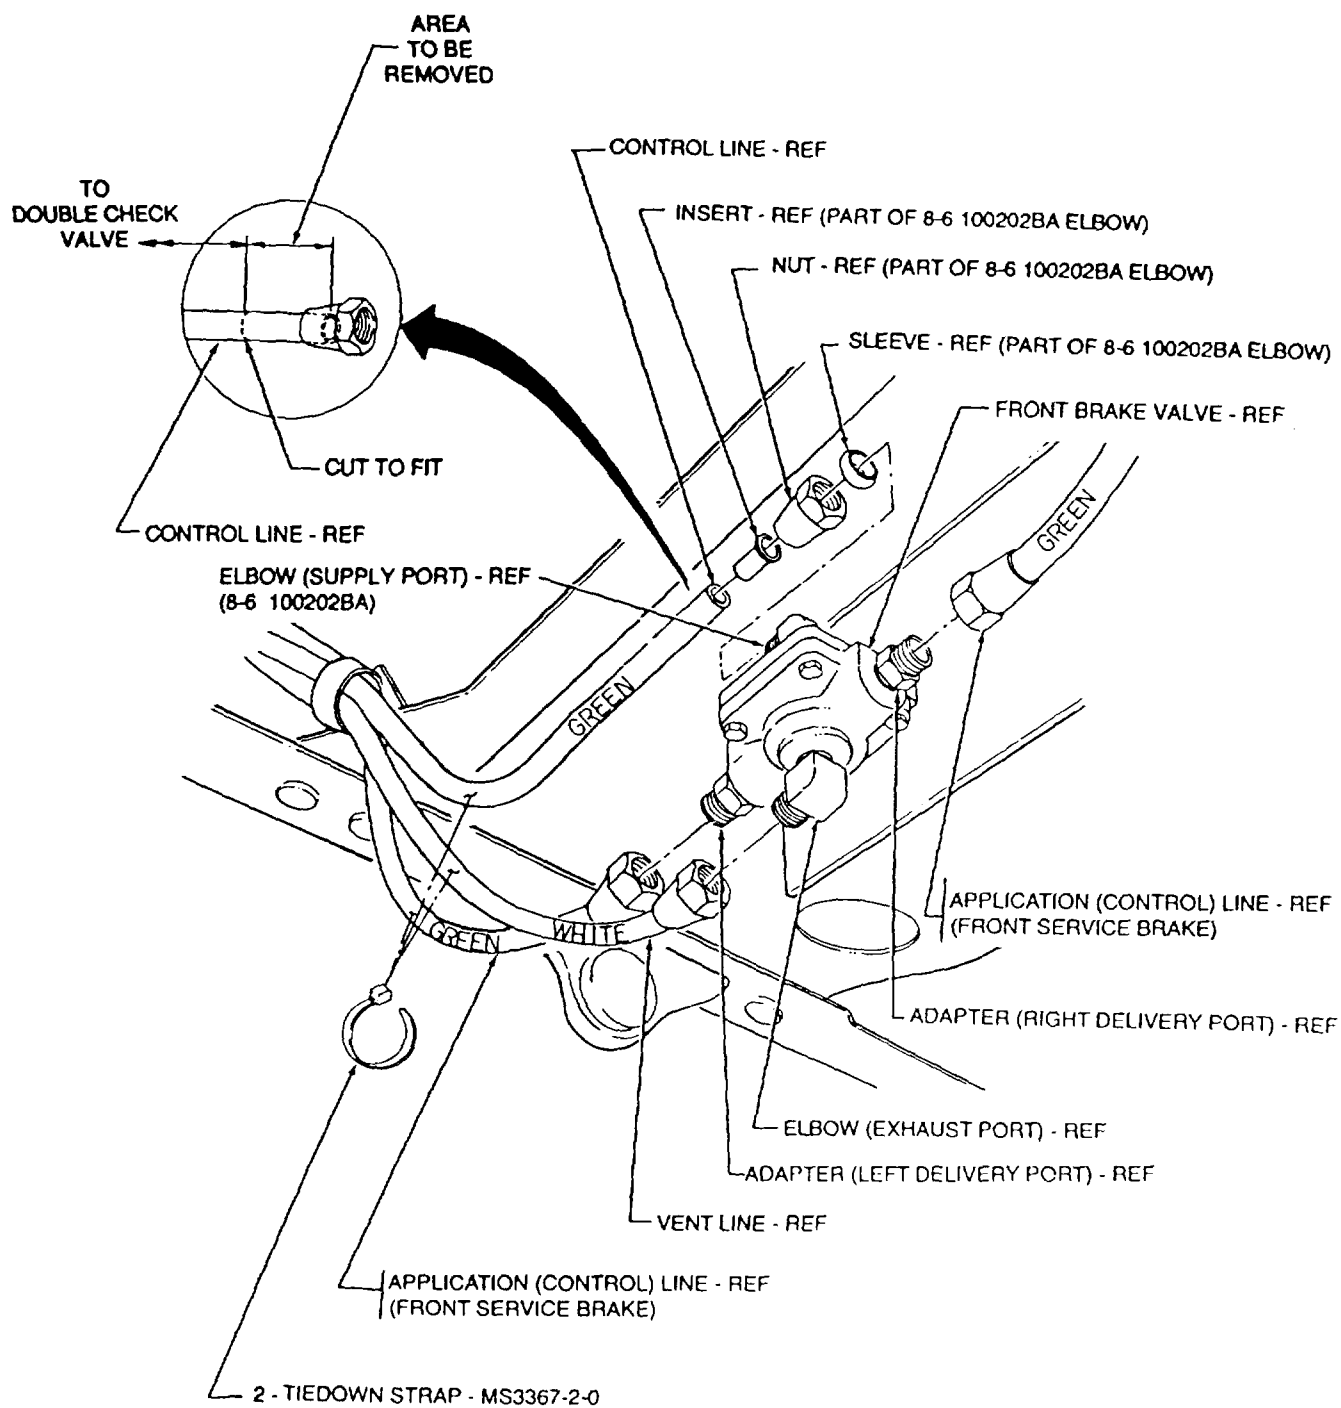

FIGURE 4
(5) Connect two existing application lines (front service brake) to adapters (left and right delivery ports) as shown in figure 4.
- (6) Connect existing vent line to elbow (exhaust port) as shown in figure 4.
- (7) Cut control line (to needed length) to fit between double checkvalve and elbow (8-6 100202BA) (supply port) as shown in figure 4.
- (8) Install nut, sleeve, and insert (part of elbow 8-6 100202BA) on control line as shown in figure 4.
- (9) Connect control line to elbow (supply port) as shown in figure 4.
- (10) Secure lines with MS3367-2-0 tiedown strap as shown in figure 4.
- (11) Close air reservoir drainvalves. (Refer to TM 9-2320-272-10.)
- (12) Connect battery ground cable. (Refer to TM 9-2320-272-20.)
- (13) Start engine, build up air pressure, apply pressure to brake pedal, and observe for air leaks from lines on front brake valve.
- (14) Road test vehicle.